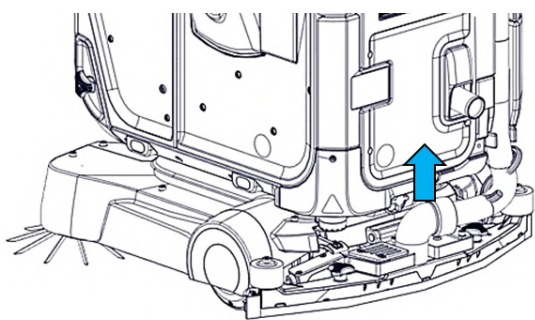

FIGURE 11-3
1. Pull up the hose of the squeegee and move it aside (**Fig. 11-3**).